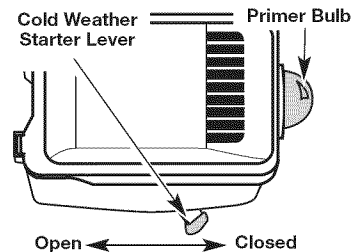

Fig. 9
IF COLD... For cold weather conditions (below 40°F), flip the Cold Weather Start Lever (Fig. 9) back to the closed position and continue to step 3. **DO NOT** flip this lever back if the temperature is above 40°F.
3. Fully press and release the primer bulb 10 times, slowly. Some amount of fuel should be visible in the primer bulb (Fig. 9). If fuel can not be seen in the bulb, press and release the bulb until fuel is visible.
IF COLD... For cold weather conditions (below 40°F), flip the Cold Weather Start Lever (Fig. 9) down to the start/closed position and continue to step 3. **DO NOT** flip this lever down if the temperature is above 40°F.